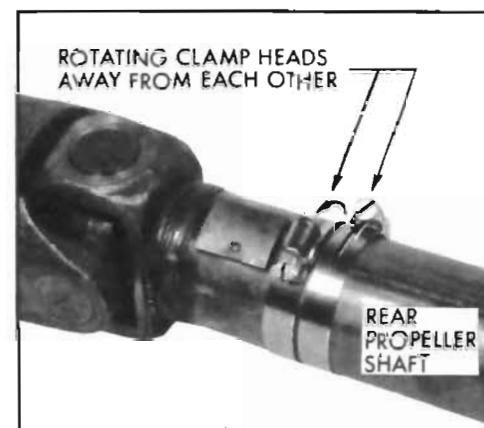

Figure 6-57—Rotating Balance Hose Clamps
4. Run the car through the speed range to 65 - 70 MPH. If no unbalance is felt, nothing further need be done on the hoist. However, if unbalance still exists, rotate both clamps to the opposite side of the shaft and retighten. Run car again and notice if the unbalance feel is better or worse; if worse, return the clamps to the original position. Apparently the combined weight of the two hose clamp heads was excessive, so to reduce this excess, rotate the clamp heads away from each other 45° (one each way from the original position). See Figure 6-57. Run car and note if unbalance has improved.